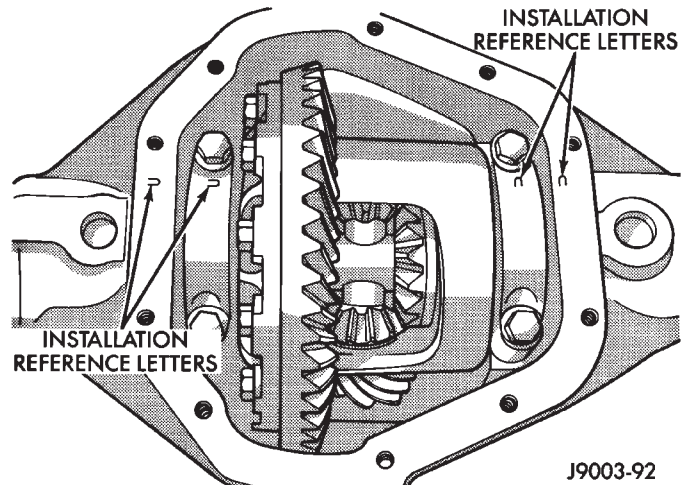

Fig. 39 Differential Bearing Cap Reference Letters
- (7) Install the bearing caps at their original locations (Fig. 39). Tighten the bearing cap bolts to 77 N•m (57 ft. lbs.) torque.